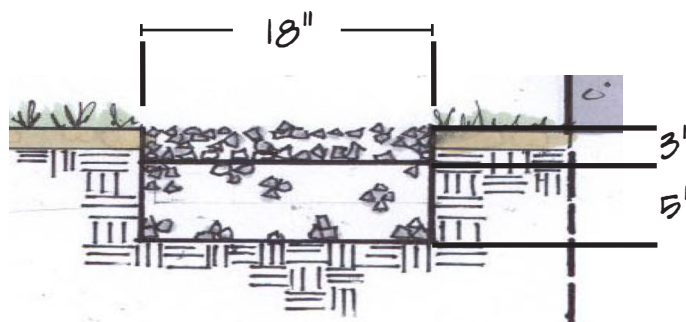

Figure 1. Profile for well drained soils.
*For Well Drained Soils:* Fill the bottom 5 inches of trench with  $1\frac{1}{2}$ " to  $1\frac{1}{2}$ " crushed stone. Fold a piece of non-woven geotextile fabric over the stone layer and fill the remaining three inches with additional stone (Figure 1).